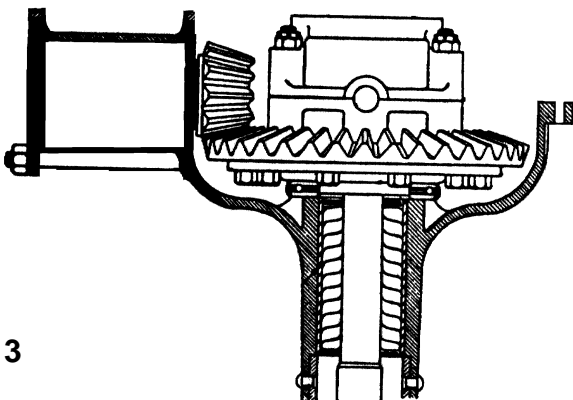

Fig. 3
4) Place the bearing cone into the end of the spool and temporarily assemble the spool alone (no drive shaft or drive shaft housing) to the single differential housing half using 2 or 3 studs and nuts. If you are going to use a gasket then also insert that gasket between the spool and housing since the gasket will affect pinion position. Place only the single thickest shim between the bearing face and the pinion gear at this time. Refer to Fig. 3